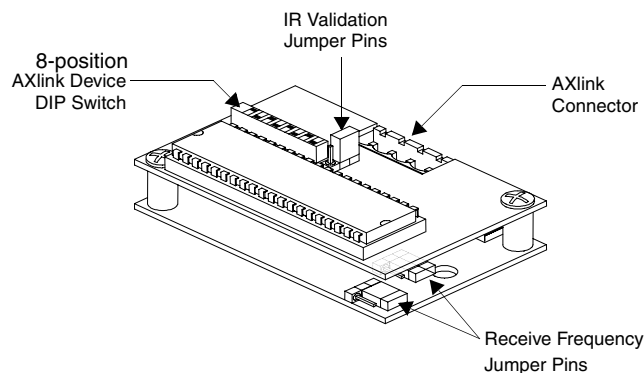
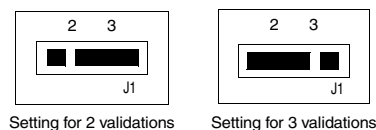

FIG. 2 Location of key components on the AXR-IRSM+ circuit board
FIG. 5 IR validation jumper pin settings
FIG. 2 illustrates the location of key components on the AXR-IRSM+ circuit board.
- Locate the 8-position Device DIP switch (FIG. 2).
- Locate the IR Validation jumper pins (J1) (FIG. 5) on the circuit board (FIG. 2).
- Position the IR validation jumper (FIG. 5) to select the number of valid IR data repetitions to be accepted: